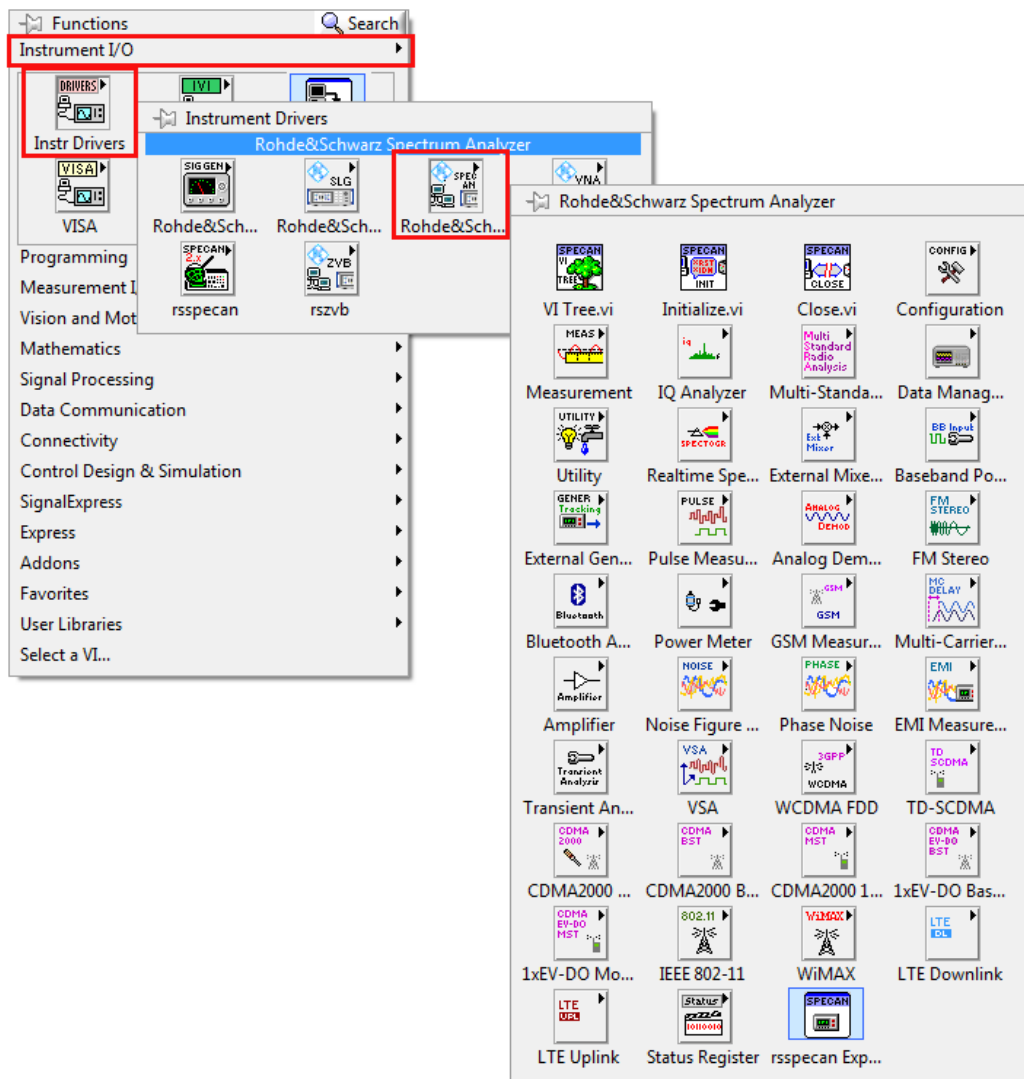

Fig. 2-4: Rohde & Schwarz Spectrum Analyzer driver in LabVIEW palette view under Instrument I/O -> Instrument Drivers -> Rohde & Schwarz Spectrum Analyzer.
- **Using Instrument I/O palette:** Refer to figure 2-4